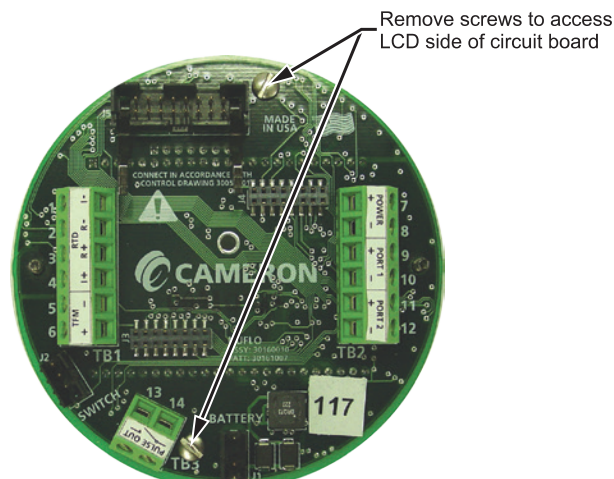

Figure C.13—Disassembly of main board/keypad assembly
12. Remove the two #4-40 × 5/16-in. screws fastening the main board to the keypad (Figure C.13).